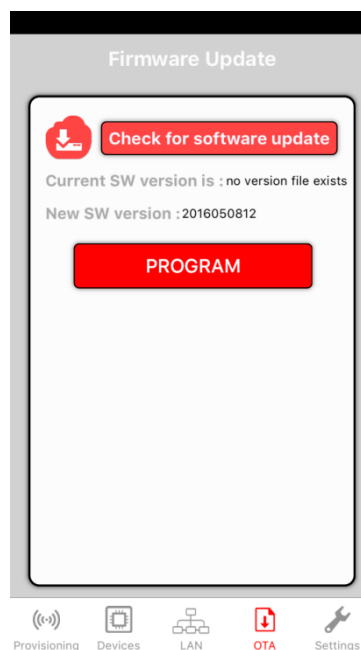

Figure 24. Mobile App Check for Software Update Completed
2. In Figure 24, clicking the Check for software update button triggers a new software version download from a data store server as indicated by New software version.